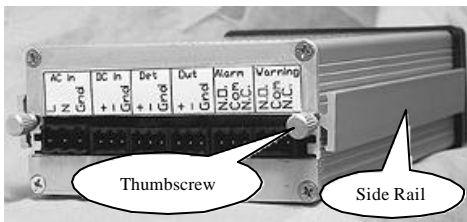

Figure 2. Rear view of LM100.
2. Unscrew thumbscrews from rear panel and remove side rails. See Figure 2.